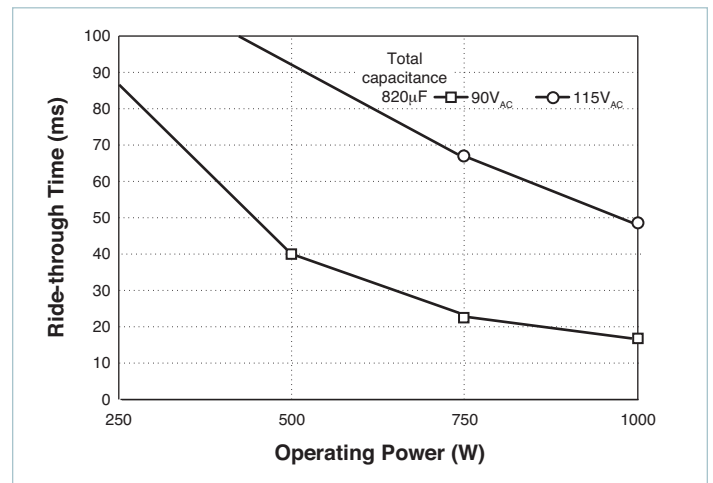

Figure 15 — Ride-through time vs. operating power
**Determining Ride-through Time:** Figure 15 illustrates ride-through time as a function of line voltage and output power, and shows that at a nominal line of 90VAC, ride-through would be 68ms. Ride-through time is a function of line voltage.